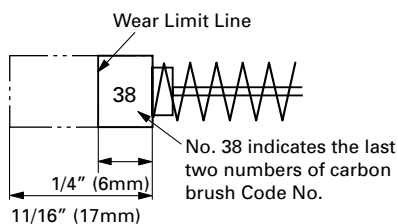
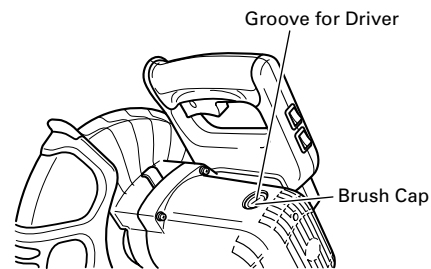

Fig. 39
Fig. 40
3. Inspecting the carbon brushes (Fig. 39 and Fig. 40)
Therefore, inspect the carbon brushes periodically and replace them when they have become worn to the wear limit line as shown in Fig. 39.
The carbon brushes can easily be removed after removal of the brush caps (see Fig. 40) with a slotted (minus) screwdriver.